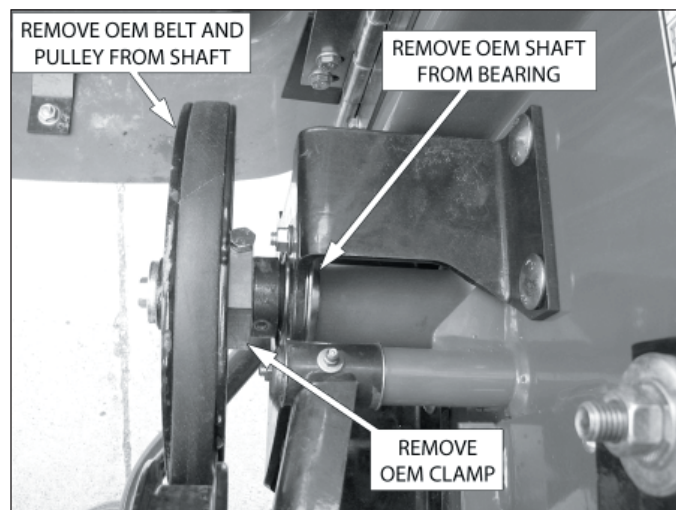

Figure 5, Header preparation
2. Remove the sickle drive belt. Next, remove the OEM pulley from the sickle drive shaft. Then, remove the OEM clamp from the right end of the shaft (Figure 5).
3. Remove the OEM sickle drive shaft. Also, remove all OEM drive shaft bearings except the bearing shown in Figure 5.